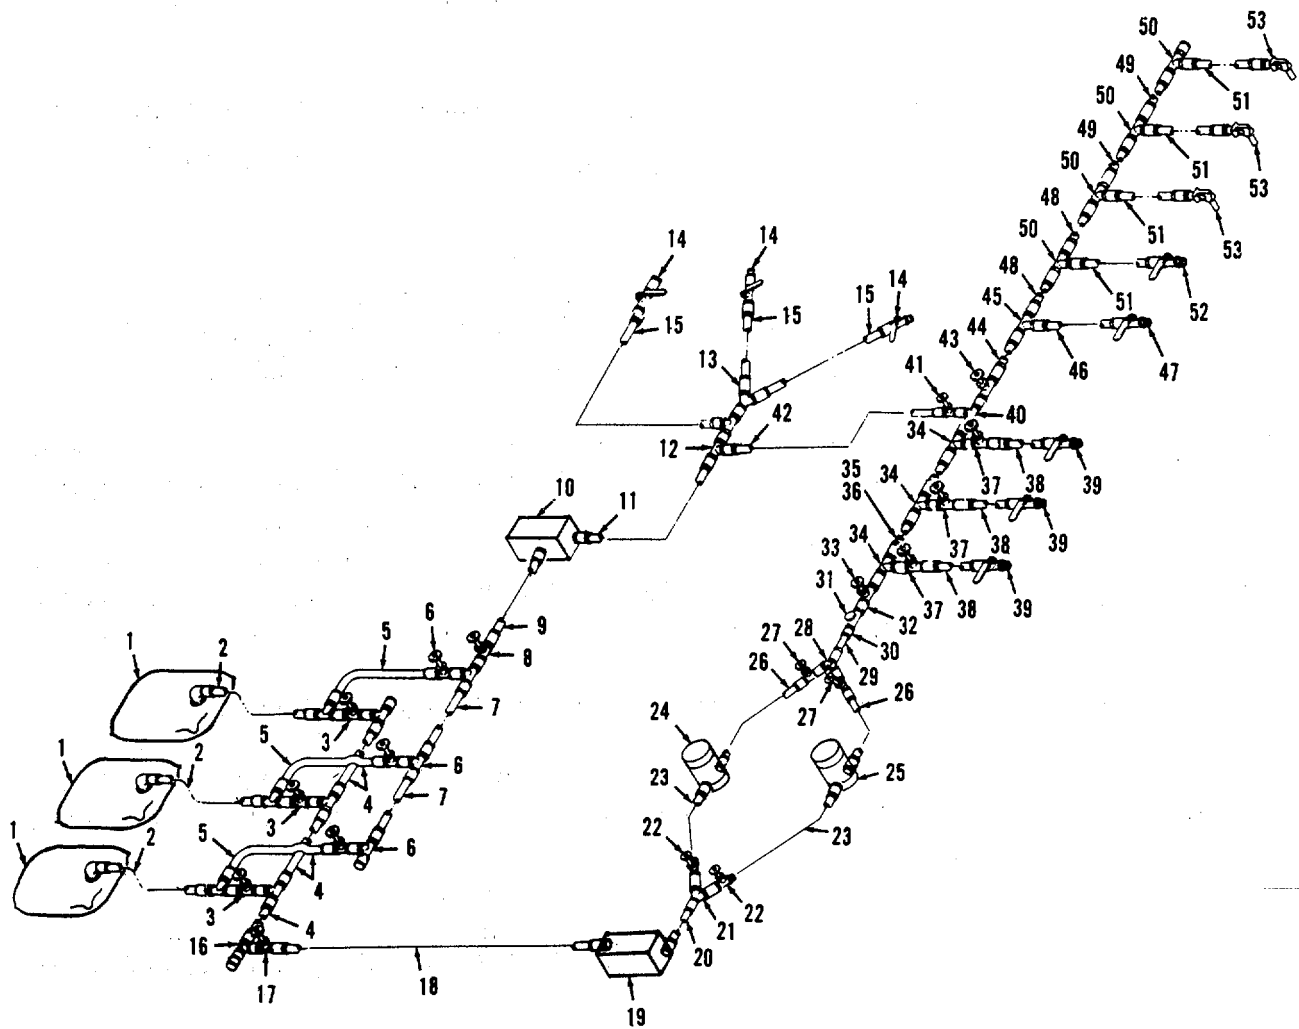

Figure 2-1. Typical Set Up of Fuel System Supply Point.
2-6. ASSEMBLY AND PREPARATION FOR USE. Figure 2-1 shows a typical layout of the FSSP. It should be used only as a guide since terrain features of the site and the specific application will dictate the final configuration. Plan the most efficient layout for the selected site, making the best use of natural cover and level terrain. Plan for good access for vehicles loading and unloading fuel.
(1) Place the selected combination of three 3,000, 10,000, and 20,000 gallon collapsible fuel tanks (1) in accordance with instructions contained in the fuel tank operator manual.
(2) Place the two 350 GPM pump assemblies (10) and (19) as shown in Figure 2-1 and in accordance with instructions contained in the applicable operator's manual for the pump assemblies.
(3) Place the 350 GPM filter/separator units (24) and (25) as shown in Figure 2-1 and in accordance with instructions contained in the applicable operator's manual for the filter/separator units.
b. Install two 4.00" x 10' hoses (2) onto fuel tank (1) and manifold assembly (3).
c. Install a maximum of six 4.00" x 10' hoses (4) (when using 20,000 gallon tanks) or a minimum of two 4.00" x 10' hoses (4) (when using 3,000 gallon tanks) to manifold assemblies (3).
e. Install three 4.00" x 10' hoses (5) between manifold assemblies (3) and valve assembly (6). Repeat for other two tanks (1).
f. Install a maximum of six 4.00" x 10' hoses (7) (when using 20,000 gallon tanks) or a minimum of two 4.00" x 10' hoses (7) (when using 3,000 gallon tanks) between three valve assemblies (6).
g. Install valve assembly (8) and two 4.00" x 10' hose assemblies (9) to valve assembly (6) and to discharge port of pump assembly (10).
2-8. OPERATING PROCEDURES.(Refer to Figure 2-1.) The following general operation procedures and explanations should be used and understood to be sure that the FSSP will operate in the best possible manner.